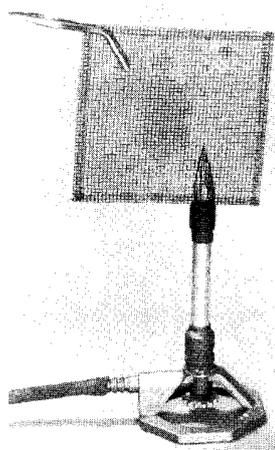

Figure 1.4 Hold the wire gauze parallel to burner barrel.
- Using crucible tongs (or forceps), hold a wire gauze parallel to the burner barrel about 1 cm above the burner top (Figure 1.4). Observe the relative heat zones of the flame. Sketch a diagram of your observations on the Report Sheet.